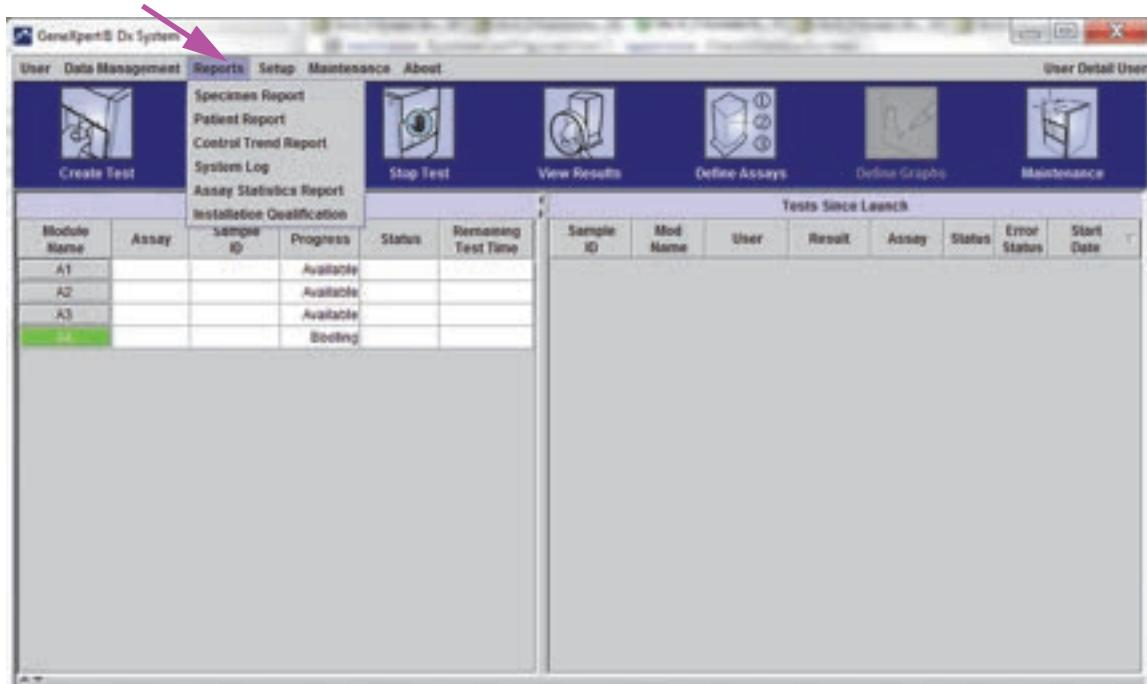
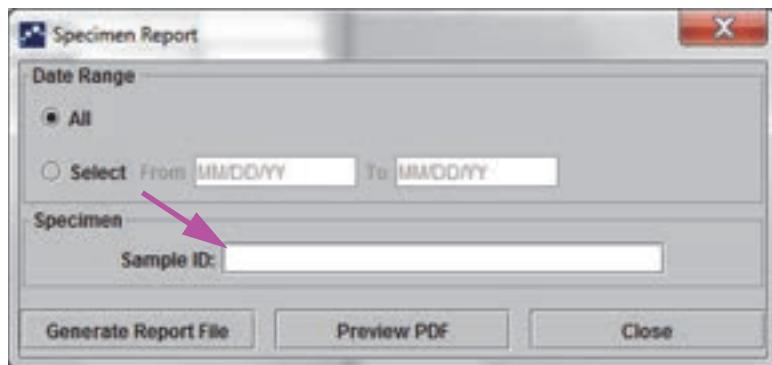
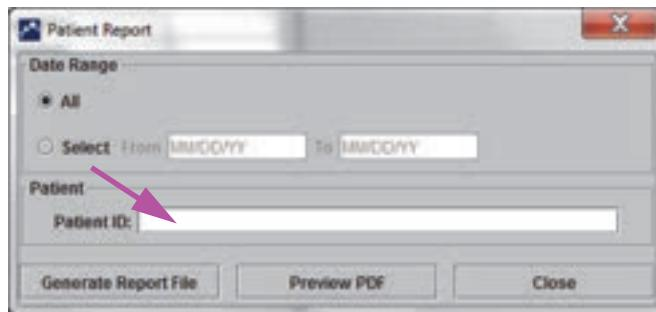
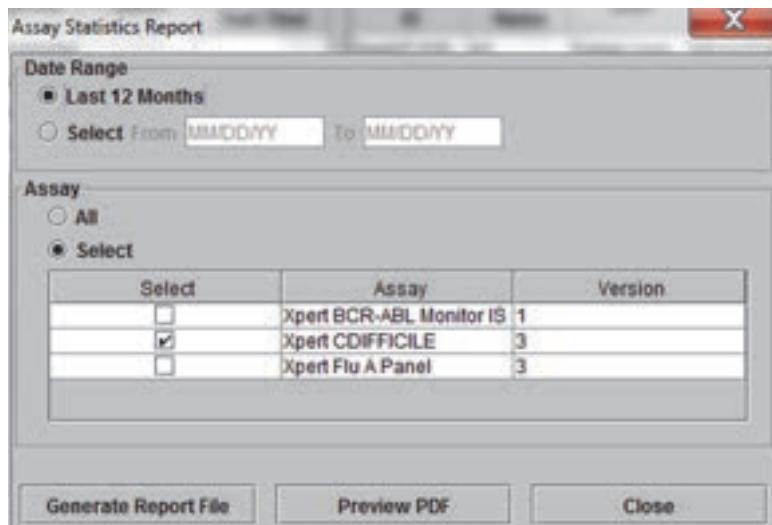

Figure 5-85. GeneXpert Dx System Window—Reports Drop-Down Menu
Figure 5-86. Specimen Report Dialog Box
Figure 5-88. Patient Report Dialog Box
Figure 5-90. Assay Statistics Report Dialog Box
The **Reports** menu (see Figure 5-85) provides the following menu options:
1. In the GeneXpert Dx System window, on the **Reports** menu (see Figure 5-85), click **Specimen Report**. The Specimen Report dialog box appears. See Figure 5-86.
- 1) Click the **Generate Report File** button on the Specimen Report screen (see Figure 5-86) to create the PDF file of the report. The Generate Report File dialog box will appear, which enables you to save the file to a specified location. Click **Save** once you have navigated to the specific location.
1. In the GeneXpert Dx System window, on the **Reports** menu (see Figure 5-85), click **Patient Report**. The Patient Report dialog box appears. See Figure 5-88.
- 1) Click the **GENERATE REPORT FILE** button on Patient Report screen (see Figure 5-88) to create the PDF file of the report. The Generate Report File dialog box will appear, which enables you to save the file to a specified location. Click **Save** once you have navigated to the specific location.
1. In the GeneXpert Dx System window, on the **Reports** menu (see Figure 5-85), click **Assay Statistics Report**. The Assay Statistics Report dialog box appears. See Figure 5-90.
- 1) Click the **Generate Report File** button on the Assay Statistics Report screen (see Figure 5-90) to create the PDF file of the report. The Generate Report File dialog box will appear, which enables you to save the file to a specified location. Click **Save** once you have navigated to the specific location.